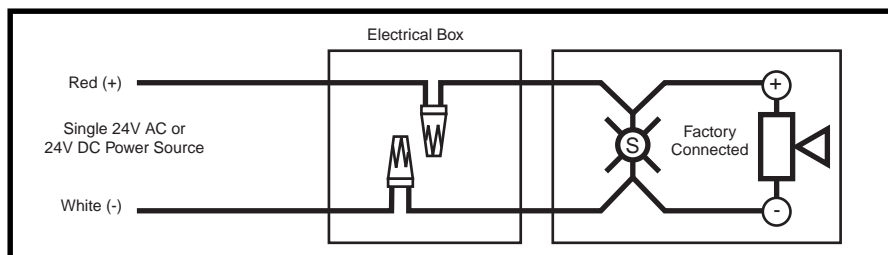

Figure 2. Connecting the Horn and Strobe
2. Connect the horn/strobe wire leads and terminals (Figure 2). The horn and strobe are connected together at the factory.